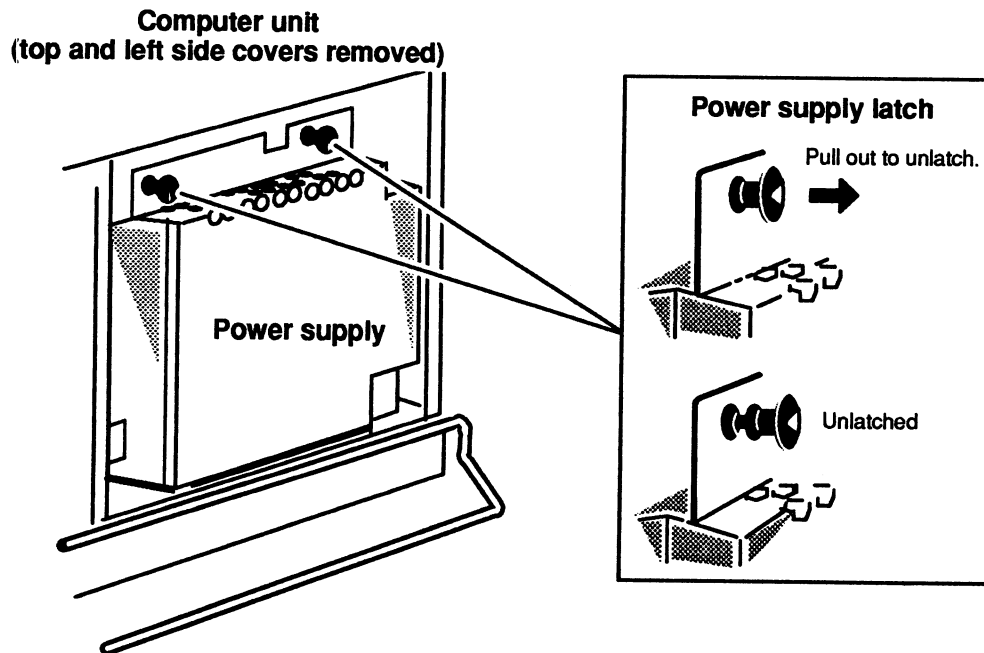

Figure 6-4 Releasing the Power Supply from the Computer Unit
3. Release power supply from the computer unit by gently pulling out the power supply latches shown in Figure 6-4.